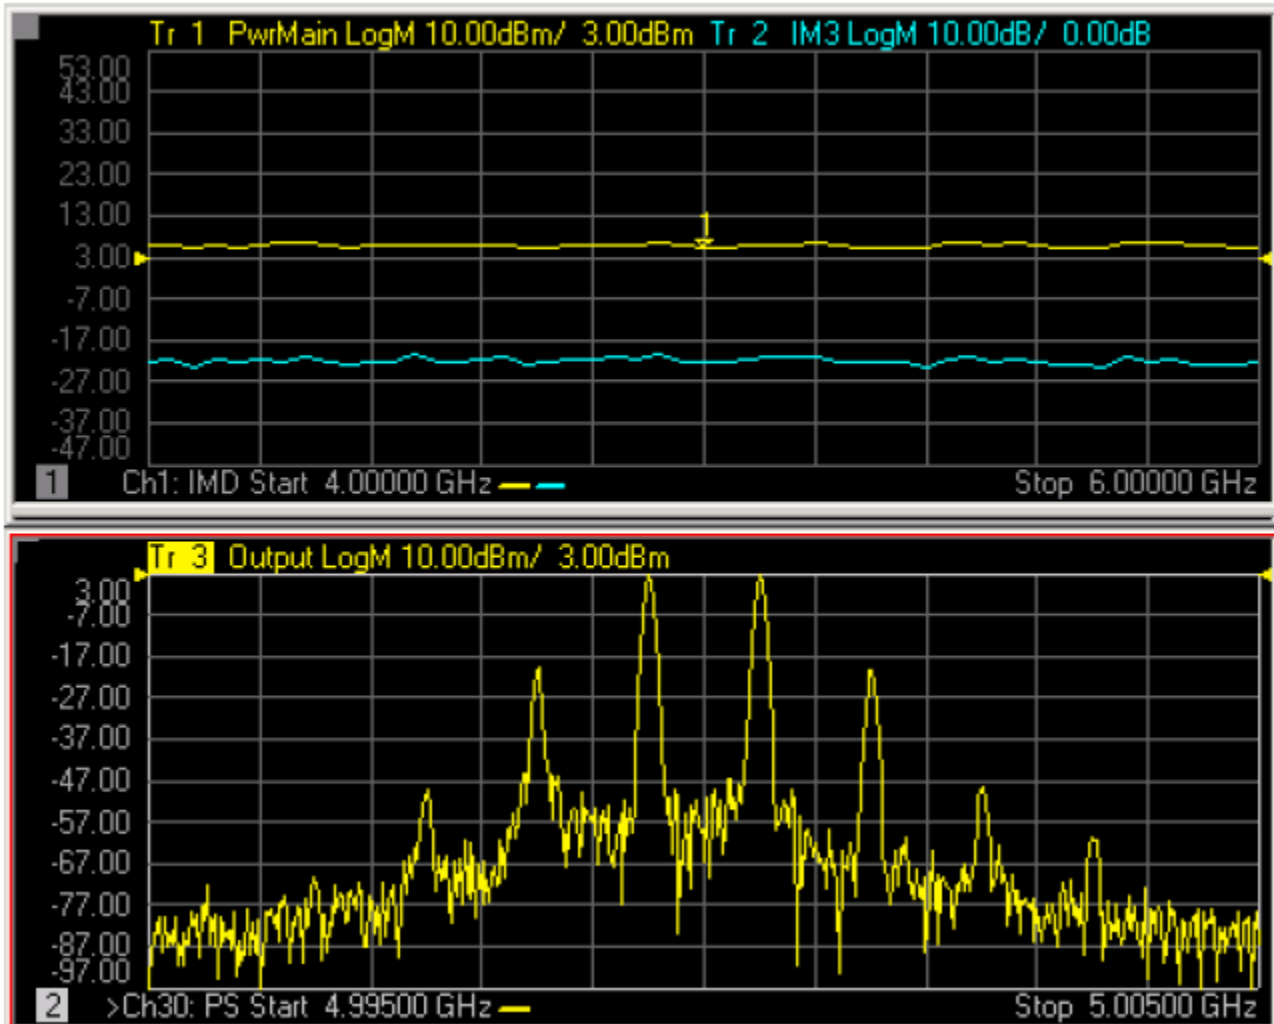

Fig. 7.15 Intermodulation Spectrum Track (lower figure) Frequency Scanning Intermodulation Distortion Track (upper figure)
- The upper figure of Fig. 7.15 shows the intermodulation distortion measurement window, in which the scanning range is 4GHz-6GHz, the sound span is fixed, and the center frequency of the double-tone sound is 5GHz.
- The lower figure of Fig. 7.15 shows the intermodulation measurement window, in which the center frequency is the same as that in the upper figure, i.e. 5GHz. But the frequency span is smaller ($\pm 500\text{KHz}$). The receiver settings of the intermodulation spectrum channel are mainly used to measure the main sound signals and three-order, five-order and seven-order intermodulation products.